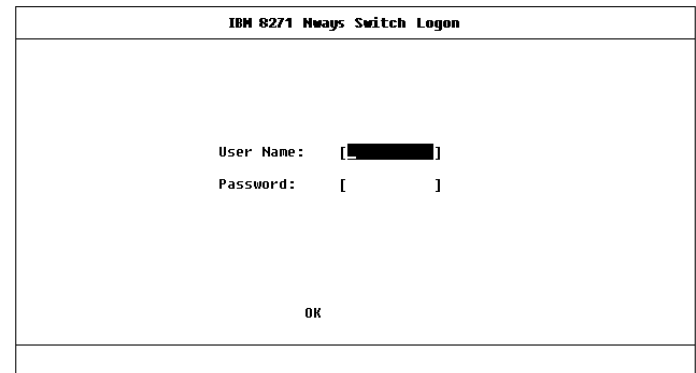

Figure 7-3 Logon Screen
- 3 At the Main Banner, press [Return] to display the Logon screen, as shown in Figure 7-3.